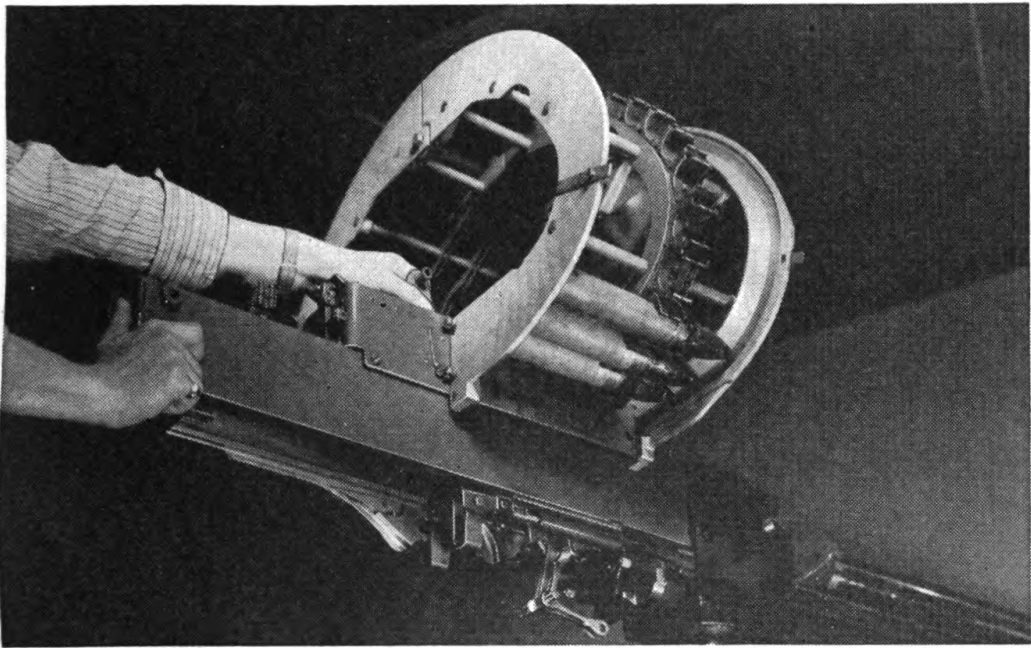

FIGURE 3.—Retracting loading handle.
b. Retract the lock frame (fig. 3).